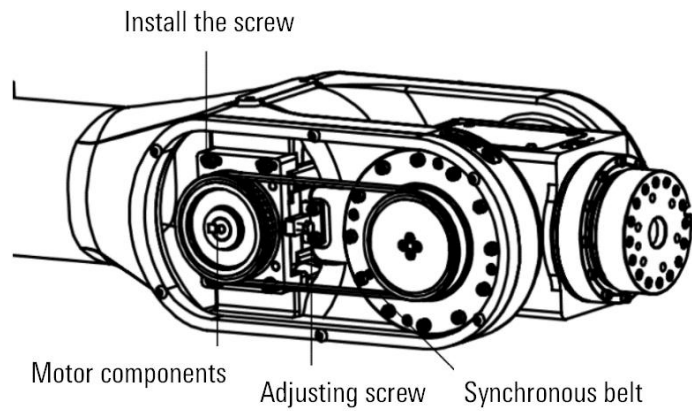

Figure 12-10 Removal of synchronous belt
- Step5. Remove four M4 screws from the motor base, as shown in Figure 12-10.